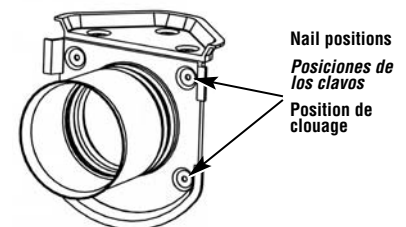

Figure 3 Figura 3 Illustration 3
3. Secure the sleeve to the form using nails or screws at the indicated positions on the sleeve (Figure 3). Attach at all locations to ensure a concrete tight seal against the form. The head of the nail or screw should be a minimum of 1/4" (.25") and a maximum of 7/16" (.437") for proper retention and removal.